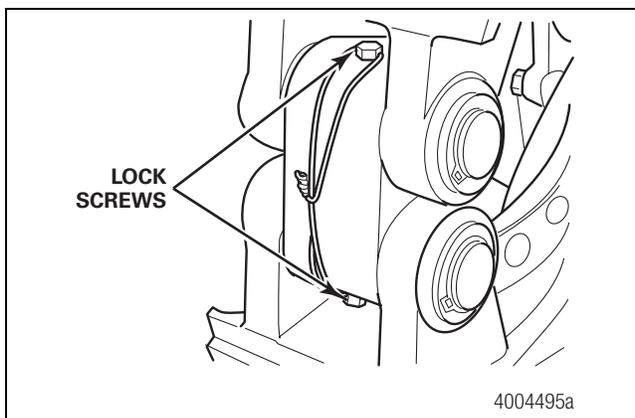

Figure 3.3
3. Cut the lock wire and remove the anchor pin lock screws from the brake spider. Figure 3.3.